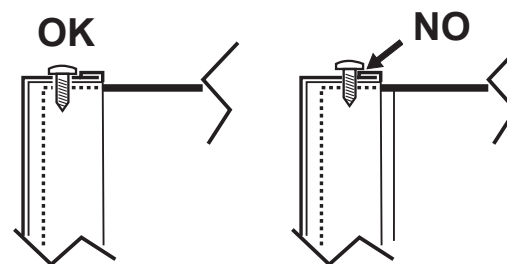

fig. 16 - upper screws mounting
3. Proceed in reverse order to reassemble the front panel. Make sure that it is correctly attached to the upper fixing and completely resting on the side panels. The head of the screw "A", once tightened, must not be underneath the lower bending stop (see "fig. 16 - upper screws mounting").